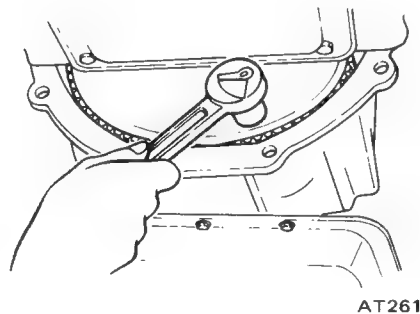

Fig. AT-47 Removing torque converter attaching bolts
13. Detach converter housing dust cover. Remove bolts securing torque converter to drive plate. See Figure AT-47.